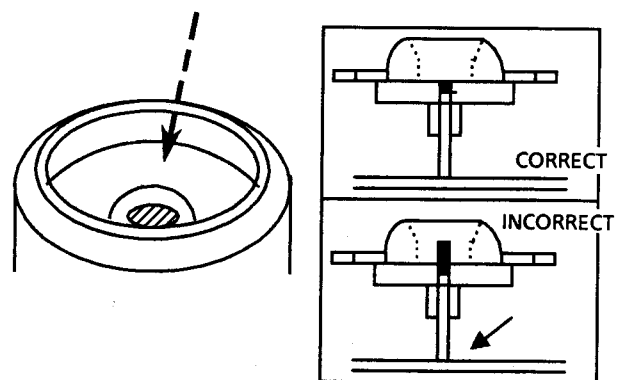

Fig 9
4. After inserting the turntable, bond the motor shaft and turntable together (at the section marked by an arrow in fig 9 on the left below).
5. Use "LOCKTITE" #460 bonding agent, and apply as little as possible. Take care not to allow any excess bonding agent to get onto the turntable. Be extremely careful not to allow bonding agent to adhere to the motor bearings (the section marked by an allow in fig 9 on the right).